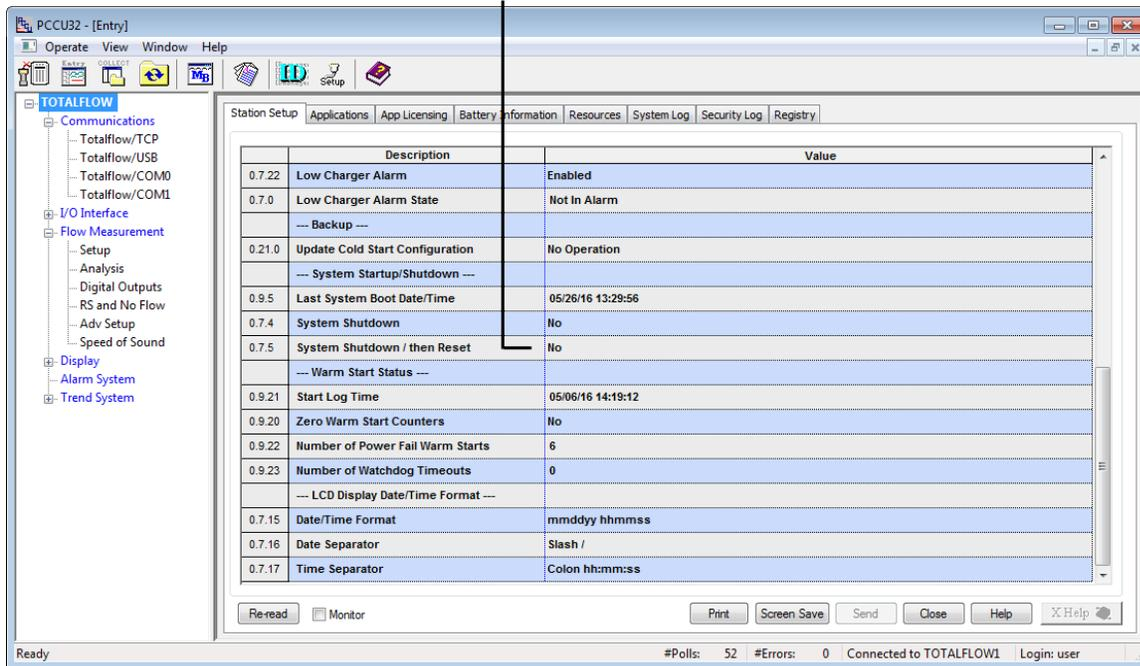

Figure 71: Warm restart on the Station Setup tab (Expert view)
4. Scroll down to the System Startup / Shutdown area (Figure 71).